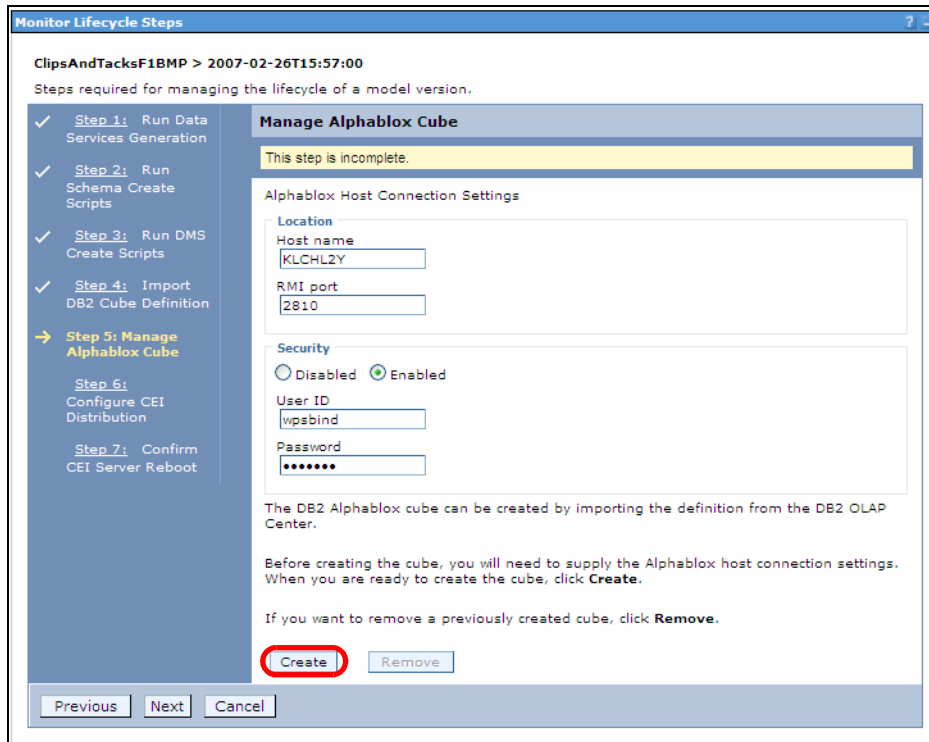

Figure 14-17 Monitor life cycle: Step 5
- ▶ Select *Create* to create the Alphablox cubes for the monitor model (Figure 14-17).